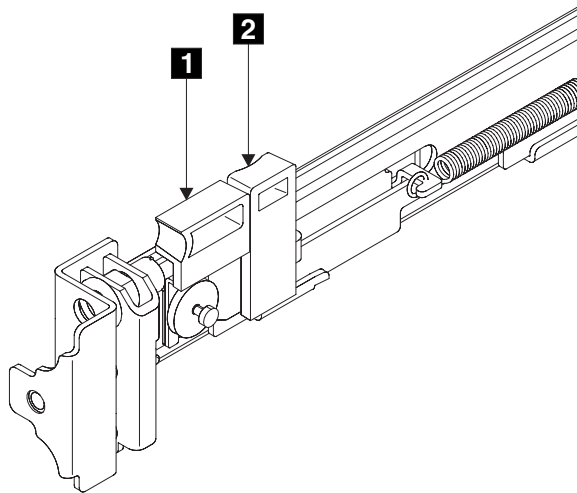

Figure 41. Retracting the latch lock carrier
- Put your index finger against the side of the latch-lever, **1** in Figure 41 on page 61, and put your thumb against the front of the latch-lock **2**.